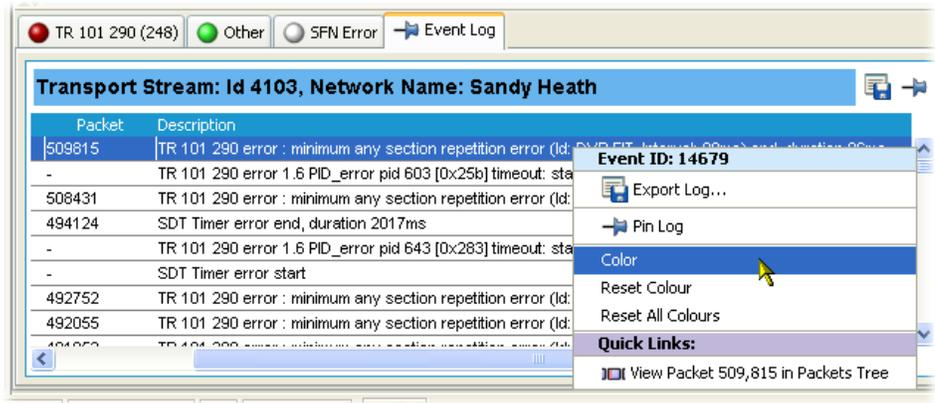
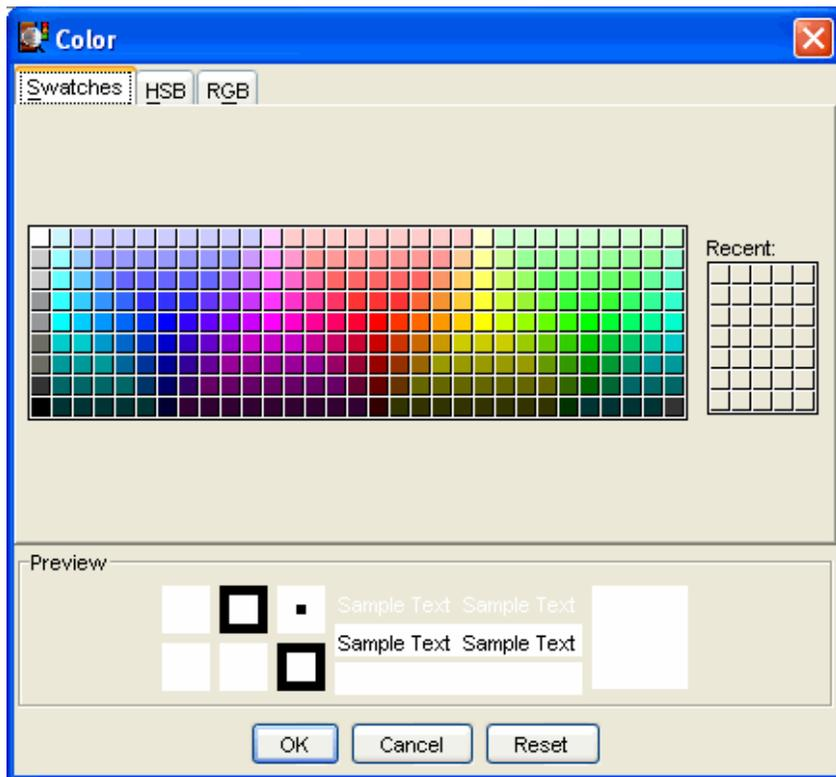

Figure 64: Event log - shortcut menu - color
Figure 65: Event log - color dialog boxes
1. Highlight the event type and select Color from the shortcut menu (see Figure 64). Figure 65 shows the Color dialog box.